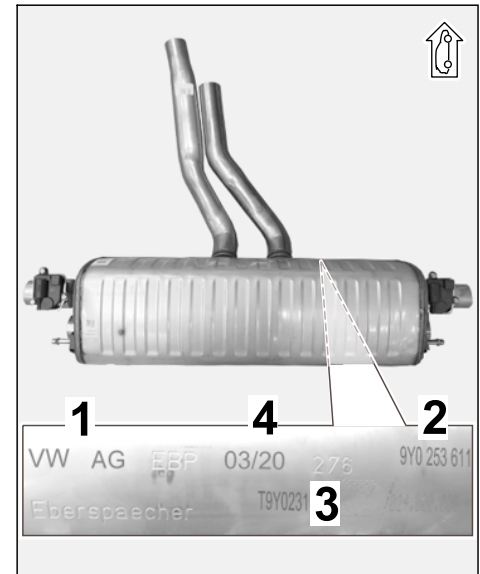

Figure 6
– Rear silencer WITHOUT PPF (⇒ *Figure 6*):